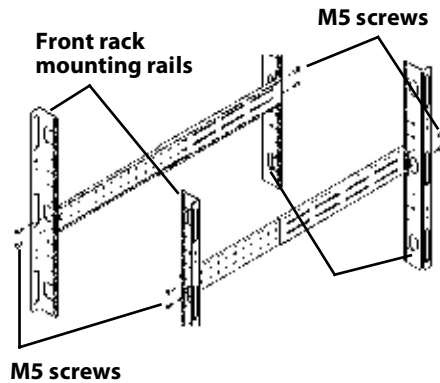

Figure 13: Installing the rear member and front member of each bracket assembly
- Install the rear member of each bracket assembly into the rack enclosure with two M5 screws provided in this kit (see Figure 13). The return flanges on the bracket assembly fit to the inside of the rack mounting rails. Insert screws loosely (finger-tight) into the top and bottom holes of the return flange on the rear member.